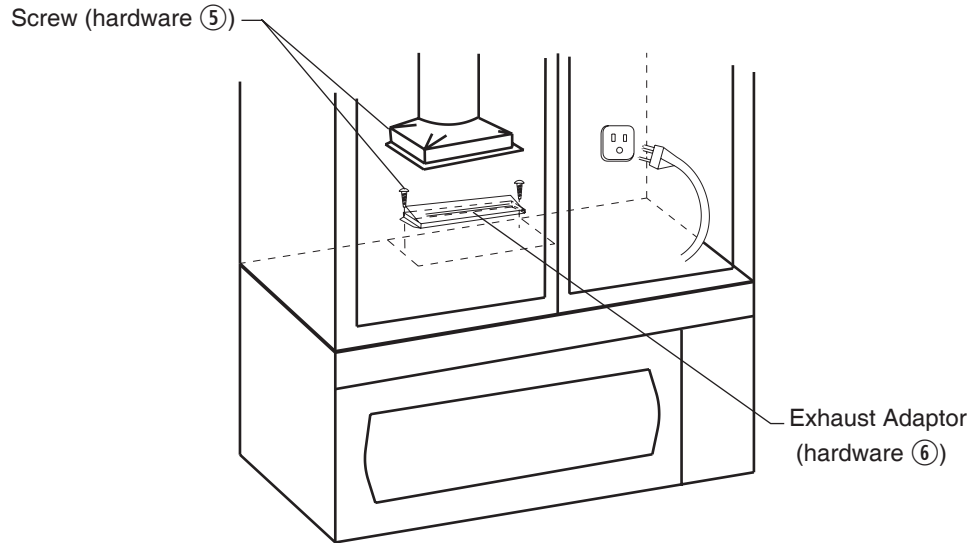

Fig. 5-1
1. Mount Exhaust Adaptor (hardware item ⑥) on top of the oven with two  $\frac{3}{8}$ " screws. (hardware item ⑤) (Fig. 5-1)